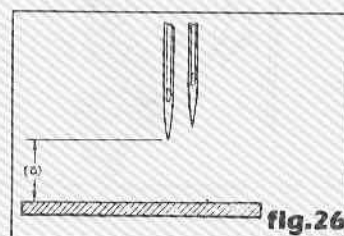

fig.26
- * When the needle bar is lifted to the highest position, the standard settings between the left needle point and the needle plate are listed in Table 3. (fig 26)